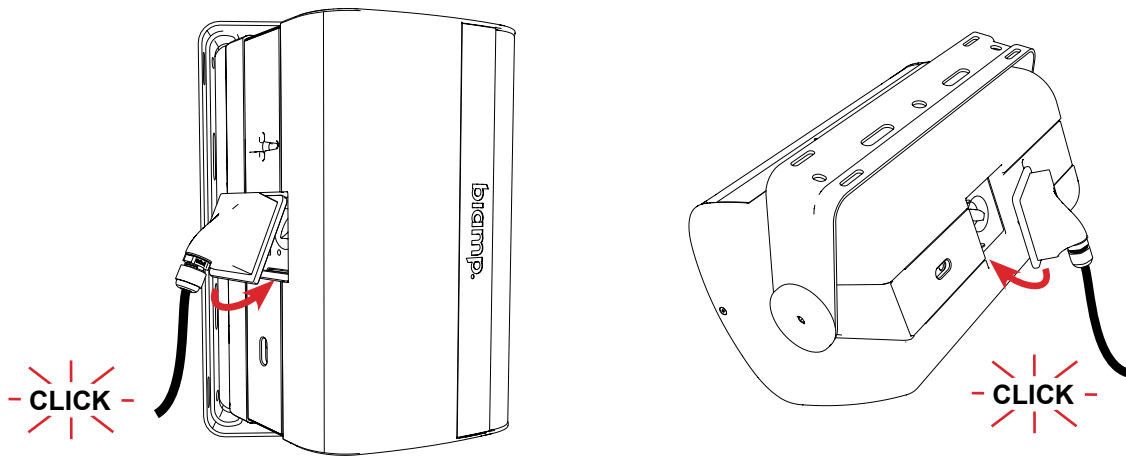

Figure 6. Install the ClickPlug
8. Insert the wired ClickPlug into the opening with the plug top (or side) into the indent under the safety cable loop first, then "click" it into place by pushing it against the latch (Figure 6).